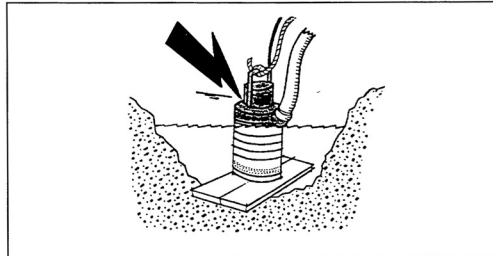

FIG. 10
**BE AWARE OF LIGHTNING.** Stay clear of the pumping equipment during electrical storms. It can attract lightning. (FIG. 10)